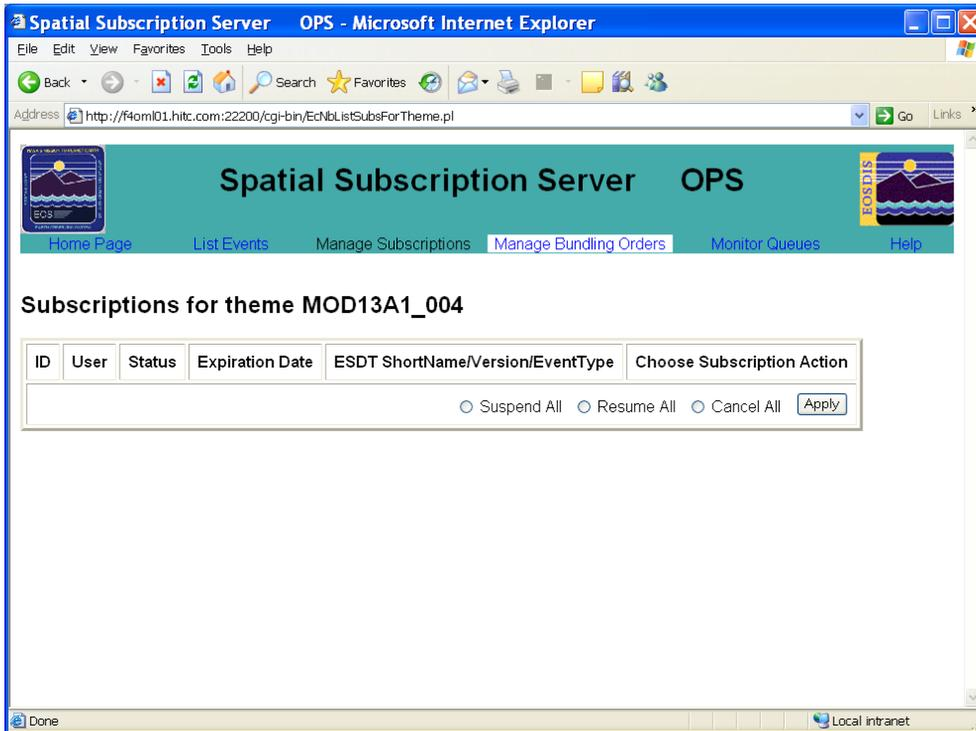

Figure 16.1-10. List Subscriptions for Theme page
- The **List Subscriptions for Theme** page is displayed (see Figure 16.1-10).